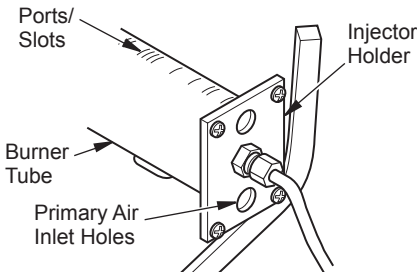

Figure 42 - Injector Holder On Outlet Burner Tube
- Inspect burner, pilot and primary air inlet holes on injector holder for dust and dirt (see Figure 42).